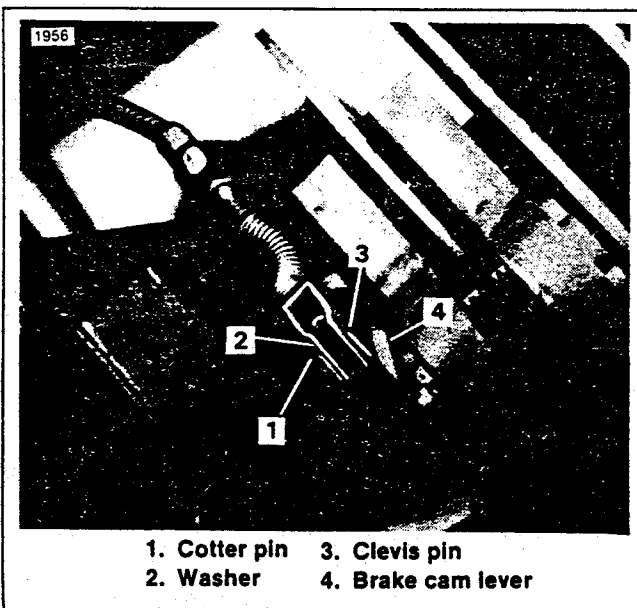

Figure 4-10. Removing Caliper
REMOVAL (Figure 4-10)
3. See Figure 4-10. Disconnect brake cable by removing cotter pin (1), washer (2) and cable pin (3). Lift brake out.
4. See Figure 4-10. Connect brake cable using cable pin (3), washer (2) and cotter pin (1).